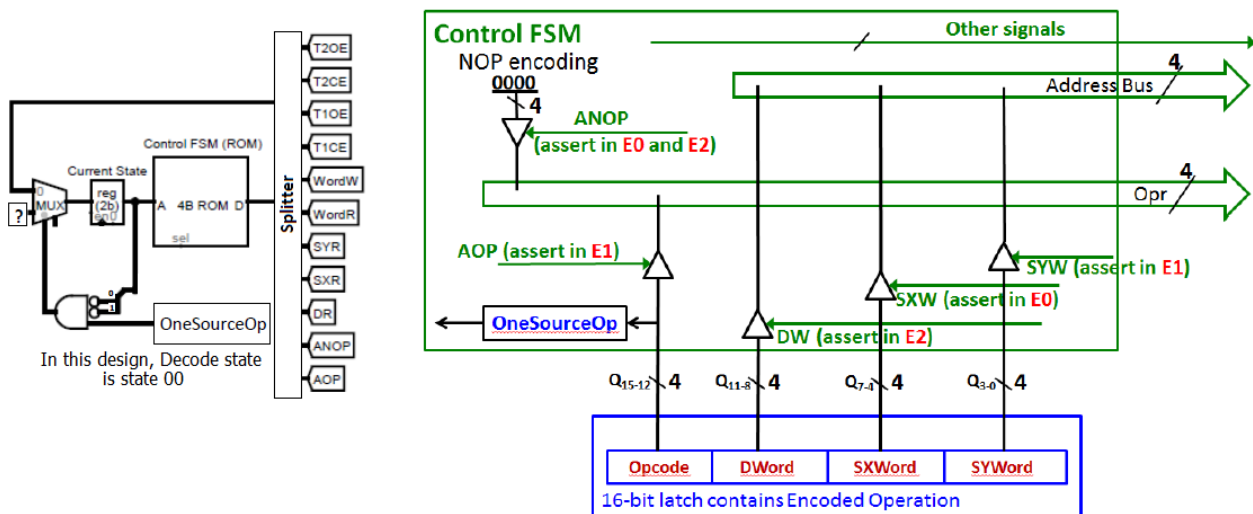

Figure 34: Encoded Operation in Control FSM
An encoded operation latch can be added to the circuit to generalize the (Mealy) Control FSM, as shown in Figure 34. The introduction of the latch enables a single Control FSM to execute every operation. When further developing the circuit into the microarchitecture, the memory words and encoded operation latch are renamed to registers and the Instruction Register (IR), respectively. This lab uses the microarchitecture terminology (i.e. registers and Instruction Register).
Save a copy of your part I (Save as) and name it “Lab-III_PartII”. In this part you will introduce a 16-bit Instruction Register (IR) to generalize the FSM (see figure 34 above). Introducing the IR allows the same ROM contents to execute all operations. Use a Logisim Register to implement the IR, and poke values into the register as needed. You will need some tristate buffers in this part.